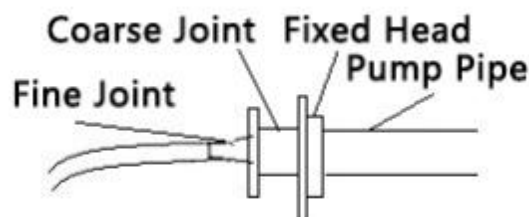

Figure 5-1
5. According to the Figure 5-1 connect pump pipe